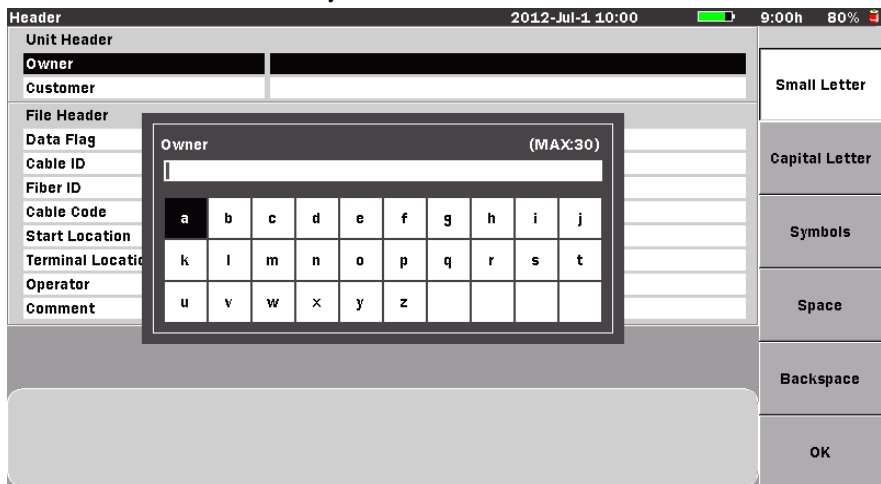

Figure 5-31: Text Entry dialog box
- Use the **Up** and **Down Arrow keys** (or the **Rotary knob**) to highlight the desired field and then press the **Enter key**. The Text Entry dialog box appears (see Figure 5-31). If no USB keyboard is connected, follow the instructions from step 5. to enter the name using the front panel keys. If a USB keyboard is connected, you can modify the name directly from the keyboard. When all of the desired characters are entered, press the **Enter key** to return to the Header screen.